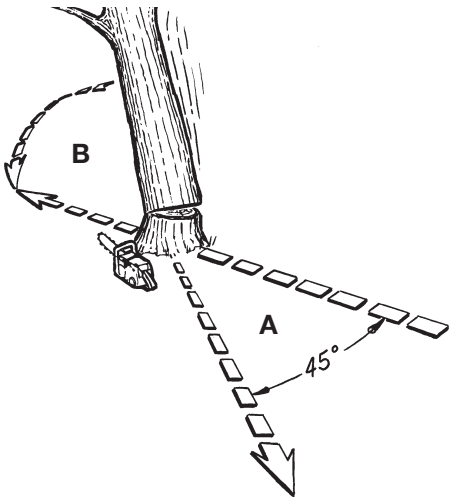

Fig. 12
| | WARNING: A retreat path (A) should be planned and cleared as necessary before cuts are started. The retreat path should extend back and diagonally to the rear of the expected line of fall, as illustrated in Fig. 12. |
| | WARNING: As the felling cut gets close to the hinge, the tree should begin to fall. When tree begins to fall, remove saw from cut, stop engine, put chain saw down, and leave area along retreat path (Fig. 12). |